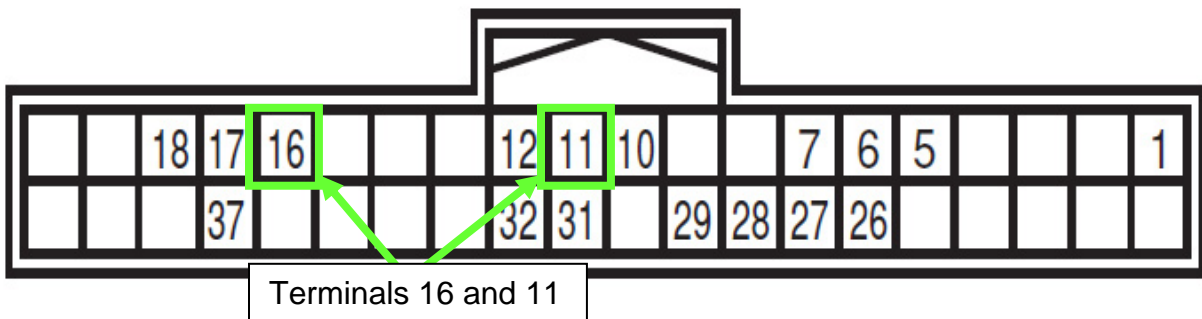

Figure 8
- Terminals 16 and 11 locations shown in Figure 8, from harness side.